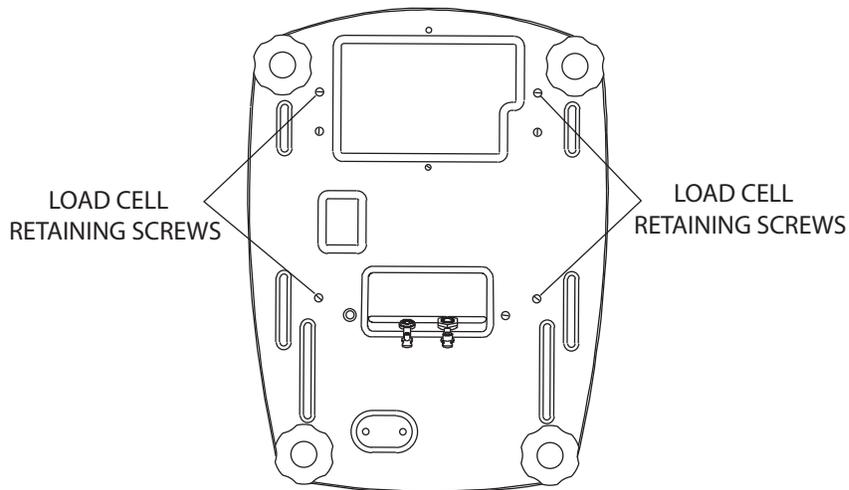

Figure 4-3. Load Cell Retaining Screws.
3. Remove the four screws holding the Load Cell Assembly to the bottom housing. See Figure 4-3 for screw locations.
3. Remove the four screws holding the Load Cell Assembly to the Base Housing. See Figure 4-3 for screw locations.
10. Re-install the four screws holding the Load Cell Assembly to the Base Housing. See Figure 4-3 for screw locations.